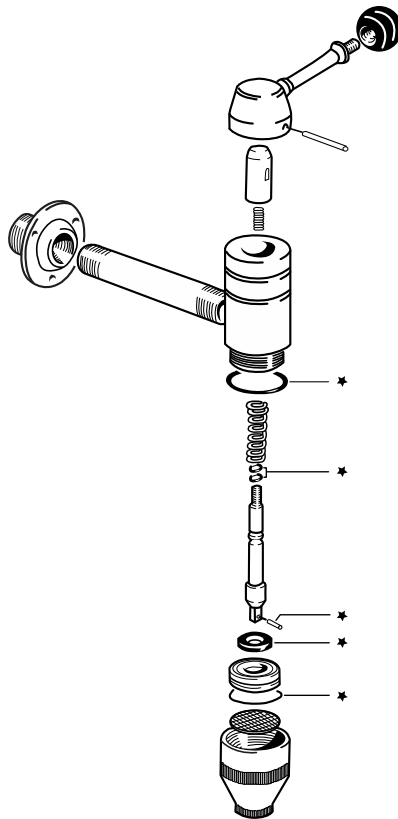

Fig 42 Steel auto shut off faucet – exploded view
8. Steel auto shut-off faucet	See figure 42